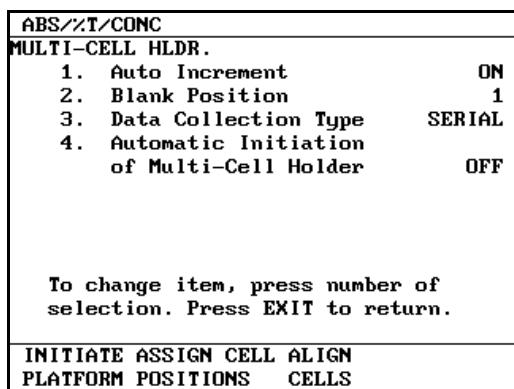

Figure 1-3 Setting the parameters for the 8-Position Multi-Cell Holder
To align the 8-Position Multi-Cell Holder, press the **ACC** key. With the **Multi-Cell Holder** screen (*Figure 1-3*) displayed, you can align the accessory.
- With the **Multi-Cell Holder** screen (*Figure 1-3*) displayed, press the **ALIGN CELLS** soft key. The **Cell Positions / Platform Alignment** screen appears.